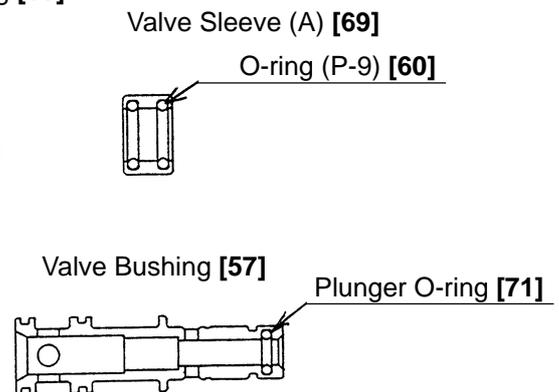

Fig. 16
- With the roll pin puller (3 mm (0.118" dia.), take out the Roll Pin D3 x 30 [68], and remove the Trigger [59], Trigger Plunger [66], Plunger (B) Spring [73], Washer M5 [72] and Plunger (B) [74].
- After removing the Trigger Valve Bushing [65], pull down strongly on the Valve Bushing [57] to remove the Valve Bushing [57], Valve Sleeve (A) [69], Plunger (A) [56] and the Plunger Spring [54].
- Remove the Plunger O-ring [71] inside the Valve Bushing [57] and the two O-rings (P-9) [60] inside Valve Sleeve (A) [69] by means of a setting pin with a rounded tip (Fig. 16).